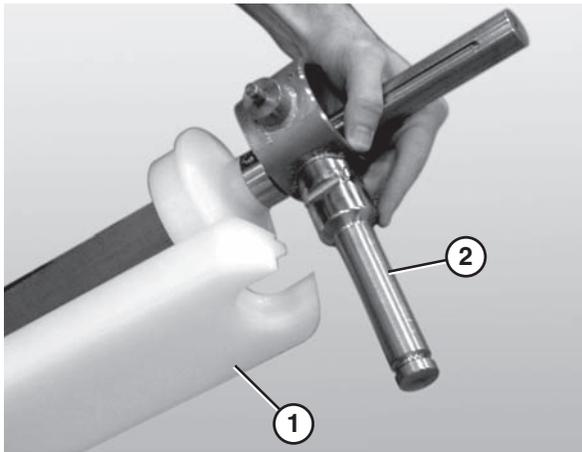

Figure 83
- Attach the guard bar (**Figure 83, item 1**) to the bearing / motor mount bracket shafts (**Figure 83, item 2**).